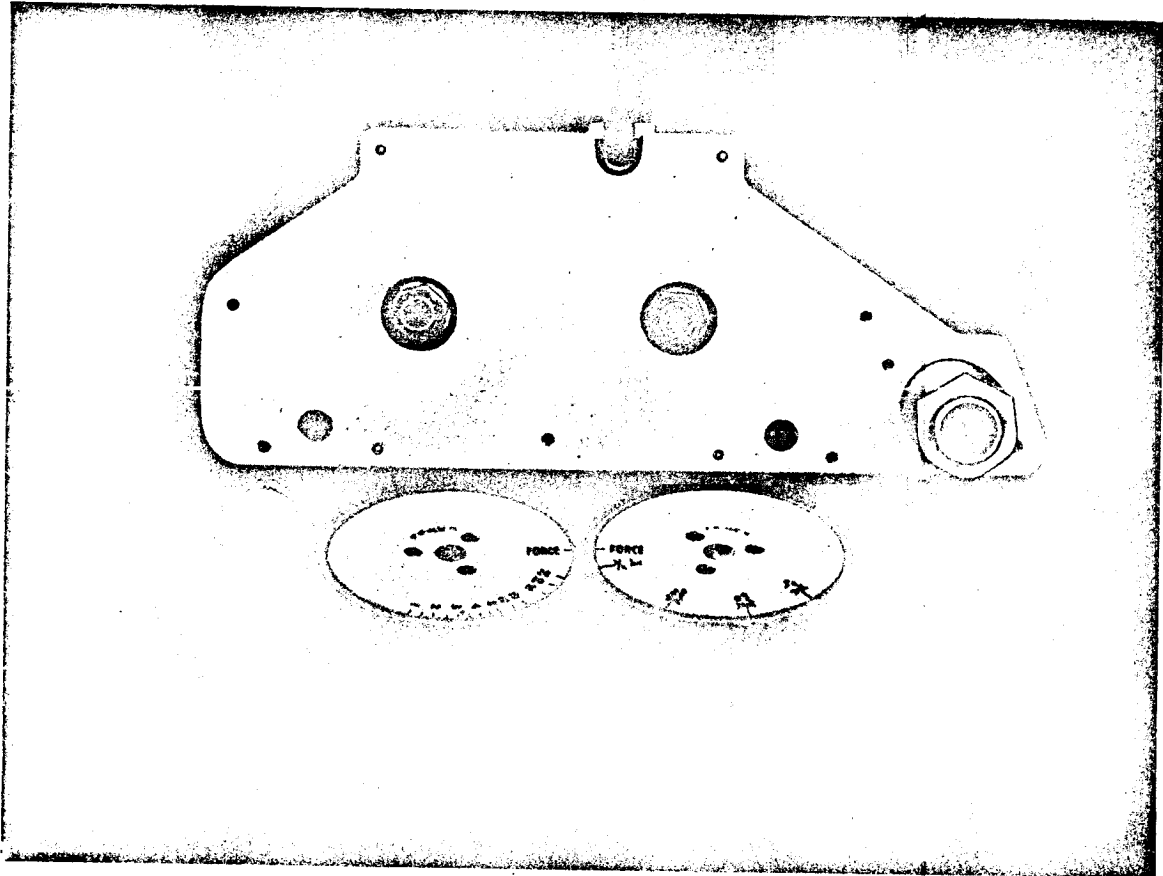
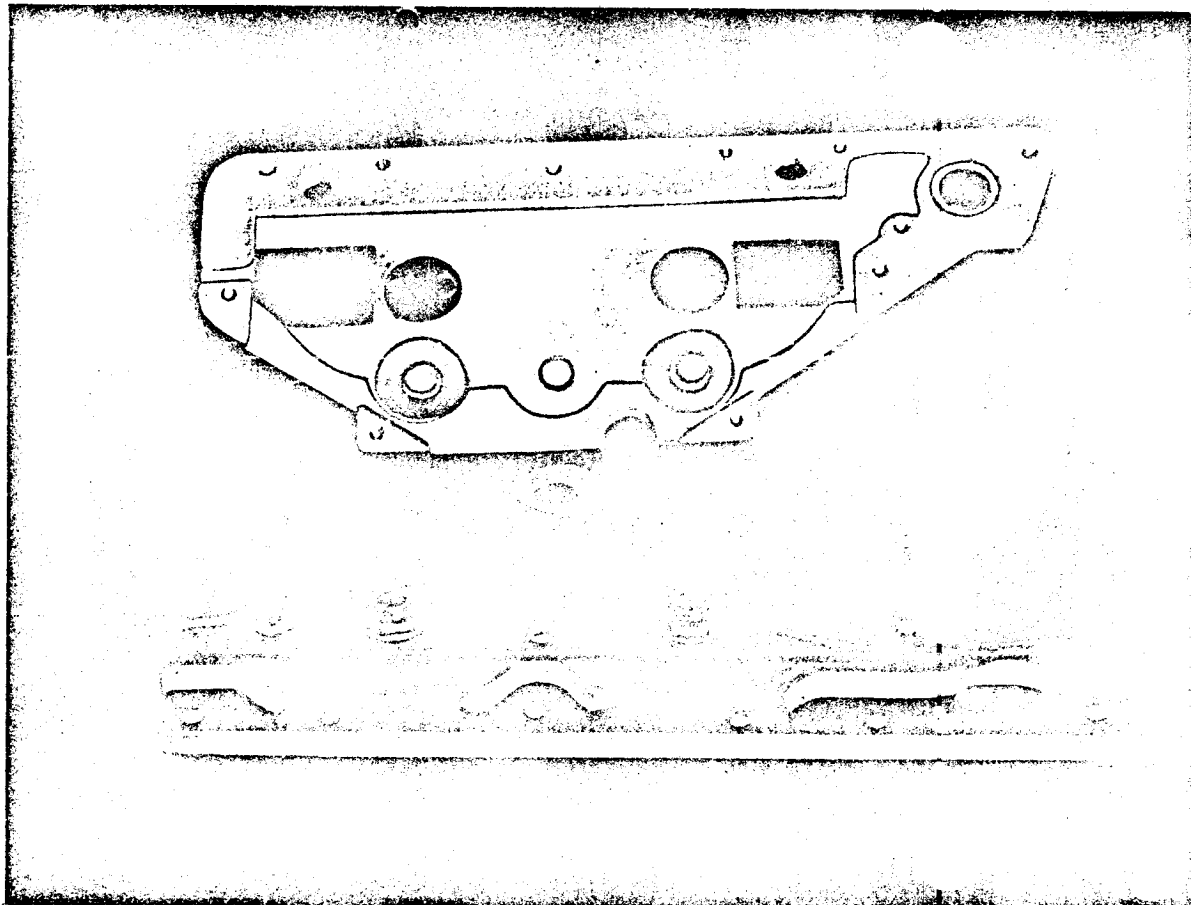
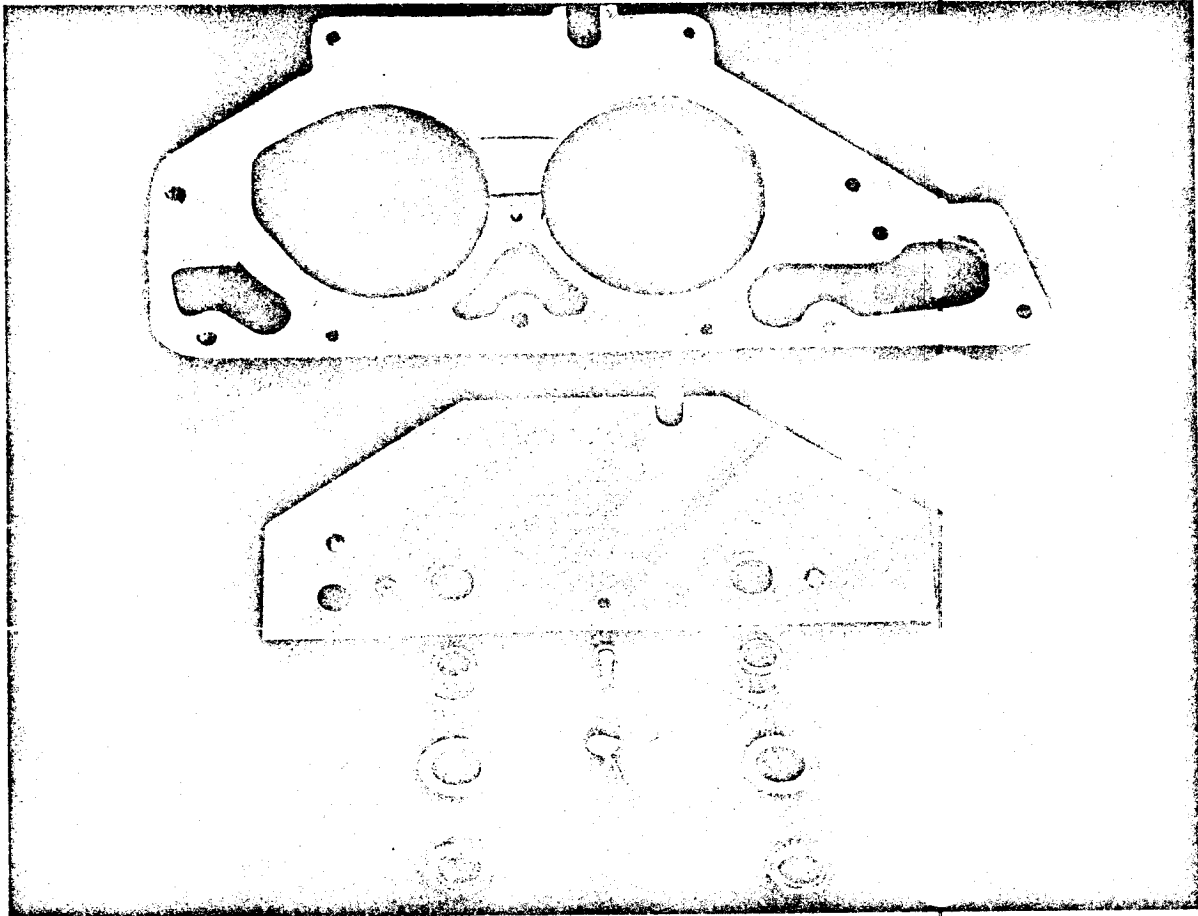
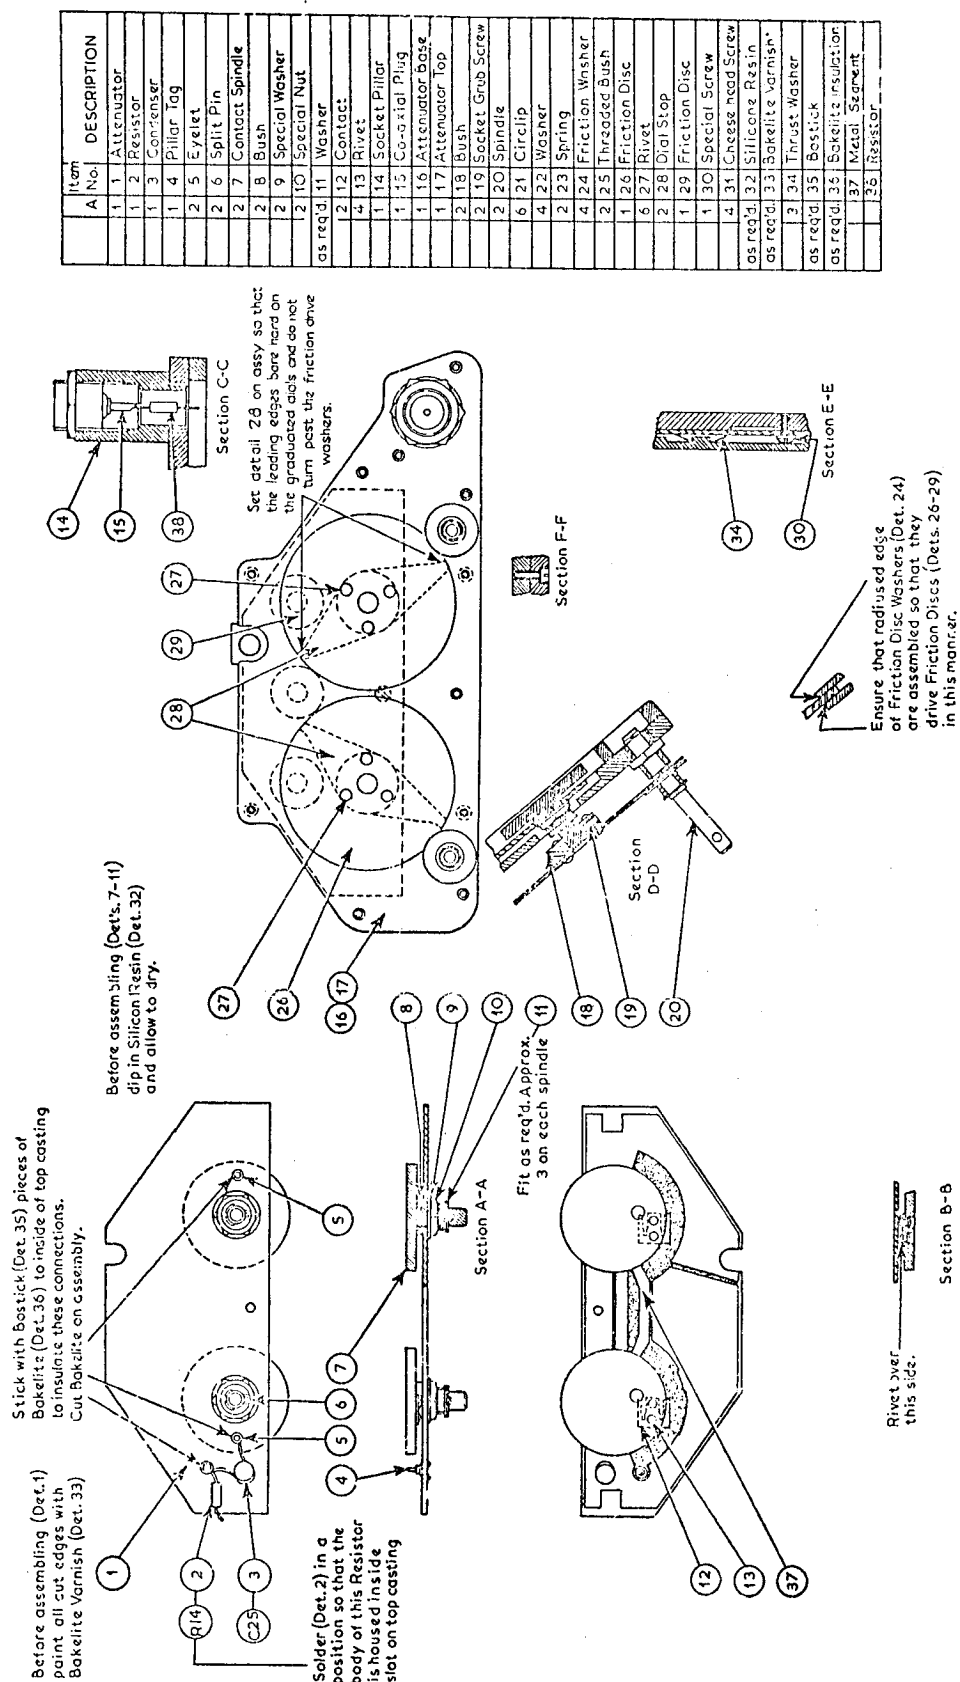

Fig. 2.2.4
Fig. 2.2.5
Fig. 2.2.6
Fig. 2.2.7 Attenuator Assembly
- (15) Withdraw the complete attenuator, which will now appear as shown in Figure 2.2.3 and Figure 2.2.7.
- (16) Loosen two Allen screws beneath dials on the attenuator.
- (17) Unscrew and remove control nut spindles. Lift off the dials.
- (18) Withdraw split pins under dials, and remove washers, and contact assemblies. See Figure 2.2.4.
- (19) Remove four 6 BA screws from beneath attenuator assembly.
- (20) Unsolder wire to output socket.
- (21) Lift off bottom casting (see Figure 2.2.5).
- (22) Remove screw from centre of the attenuator card, and remove card.
- (23) Remove brass ferrules, and fittings, two wires (one in series with a resistor), and a capacitor from attenuator card. (See Figure 2.2.6).
- (24) Replace faulty card with a new replacement and re-assemble.
- (25) When replacing the dials they should be locked on to the spindles after setting in the following positions:-
The FINE contact should be about  $1/64$ " clear of the metal segment (Item 37 on Fig. 2.2.7) when at the 25 position and the COARSE contact should be in the middle of this smaller metal segment when the dial is at the xlv position, i.e. as shown on Fig. 2.2.3.